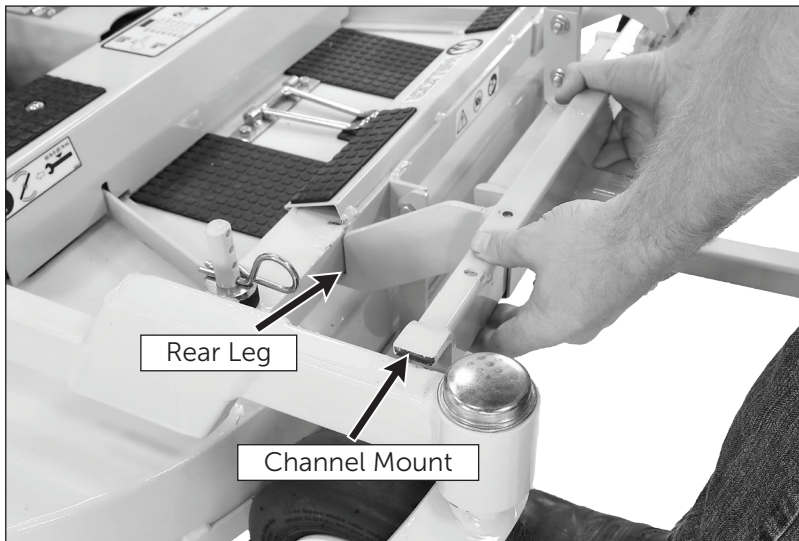

Figure 1.1
2. Hook the rear legs of the dethatcher under the front of the deck carrier frame as shown in figure 1.1, and slide the channel mounts out to the deck carrier frame arms.